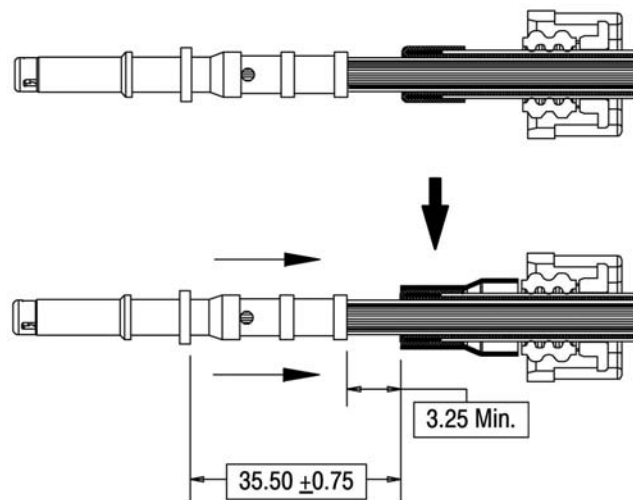

Figure 10
9. Install outer ferrule 1587584-[ ] past the pin terminal, over folded braided cable shield and inner ferrule, maintaining the dimensions as shown in Figure 10.